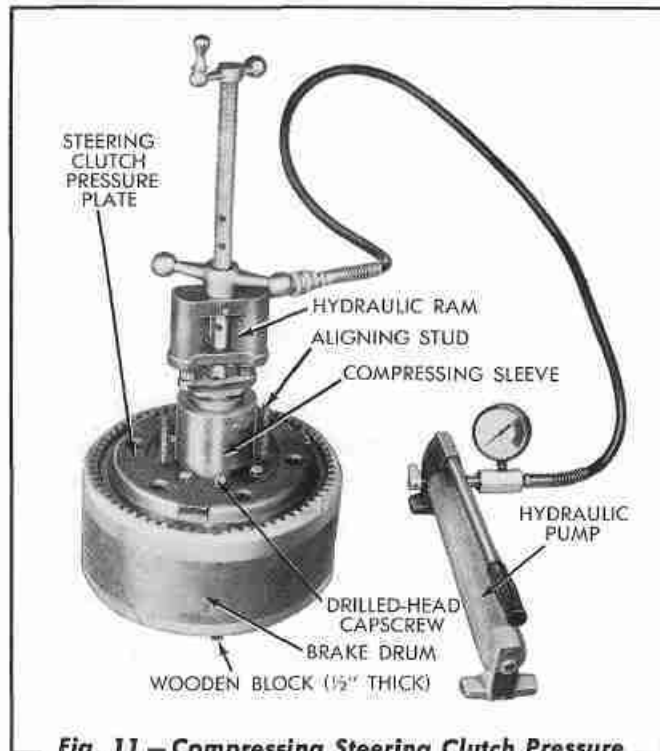

Fig. 11 — Compressing Steering Clutch Pressure Springs to Install Capscrews
- Place the clutch pressure plate in position, making certain the punch marks are aligned, and place the tool compressing sleeve through the center of the pressure plate and down on the clutch hub as shown in Fig. 11.
- Install the hydraulic ram as shown in Fig. 11 and compress the clutch pressure springs. Insert four (4) drilled-head cap screws and tighten the cap screws securely.
- Remove the aligning studs and install the remaining four (4) drilled-head cap screws. Tighten all eight (8) cap screws securely.